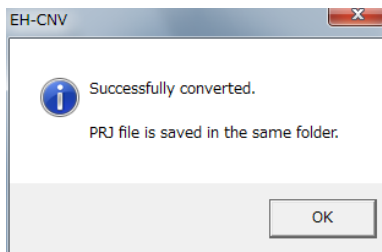

Fig. A2.1.6 Message when successfully converted.
- 5] If all the circuits are converted properly, message “Successfully converted” appears as below. (Fig. A2.1.6)